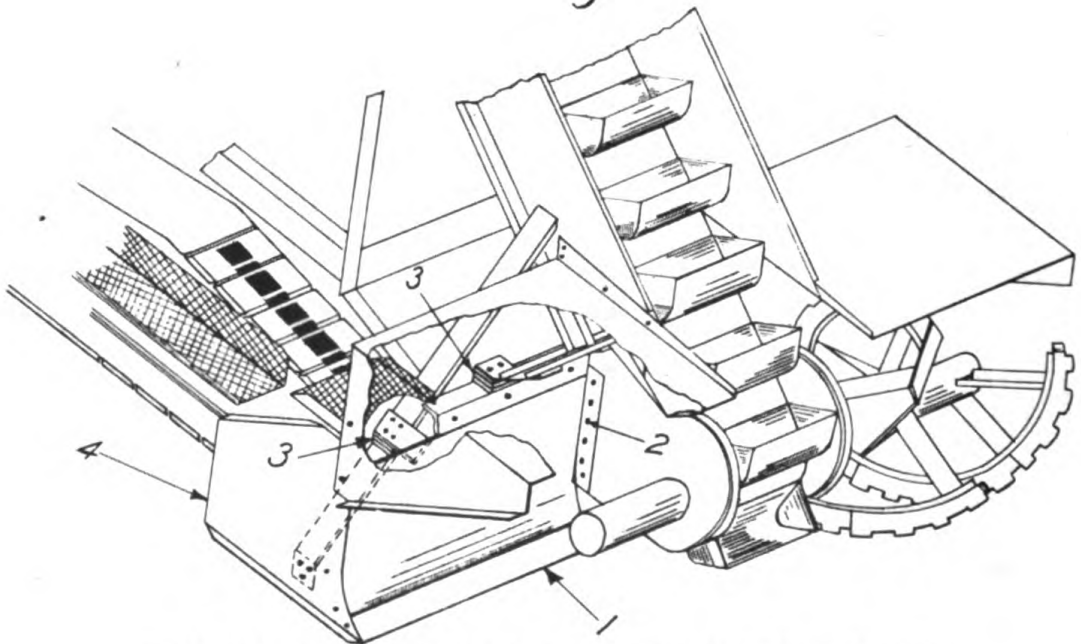

Figure 79. Scraper assembled on foot end of bucket elevator.
The scraper (4) Figure 79 is assembled on the foot end of the bucket elevator for the purpose of cleaning up material behind the spirals. The scraper extends the full width of the machine, cleaning a path 8'-0" wide. The scraper is fabricated of plates and angles assembled into a one piece unit. Along the lower edge of the scraper is bolted a renewable wearing blade (1) which takes the wear of cleaning up operation. At the points where the scraper bolts to the elevator slotted holes (2) and shims (3) are provided. Using this adjustable feature the scraper blade should be kept approximately 1/4" below the lowest point on the spirals when loading from stock piles or banks of material. Should machine be used for grading, the scraper should be raised to 1/4" above the lowest point on the spirals. This setting allows the spiral to cut packed material rather than throwing the full cutting load on the scraper assembly.